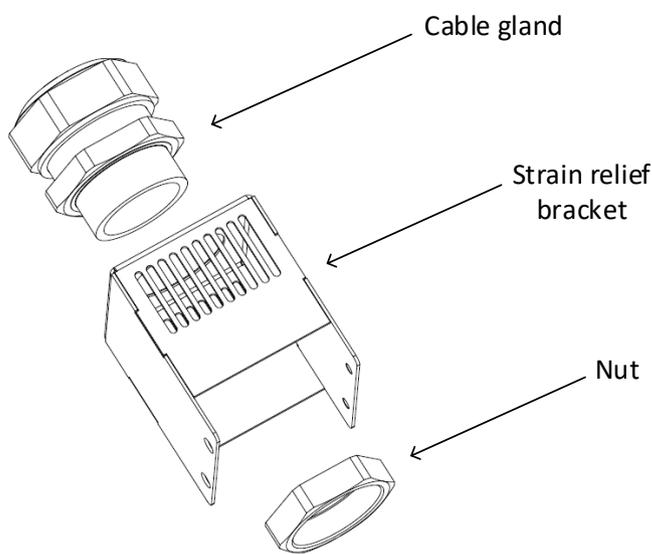
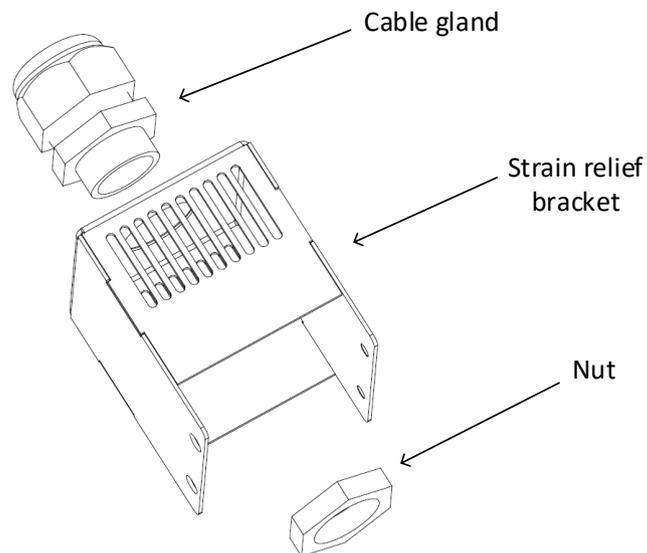

Figure 4-26: Insertion of the Plastic Nut into 3-Phase 200 Strain Relief Bracket
Figure 4-27: Insertion of the Plastic Nut into 3-Phase 400/480 Strain Relief Bracket
2. Insert the Cable gland into the Strain relief bracket Assembly. For 3-Phase 200, refer to Figure 4-26. For 3-Phase 400/480, refer to Figure 4-27.